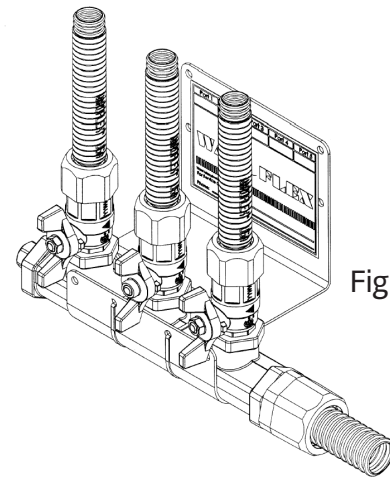

Figure 4.32
- B. Manifolds shall be rigidly installed and may be mounted in any orientation. Mounting can be done with mounting brackets (Figure 4.32), supplied mounting holes on manifolds (if equipped) or rigid piping into a non-movable gas appliance.